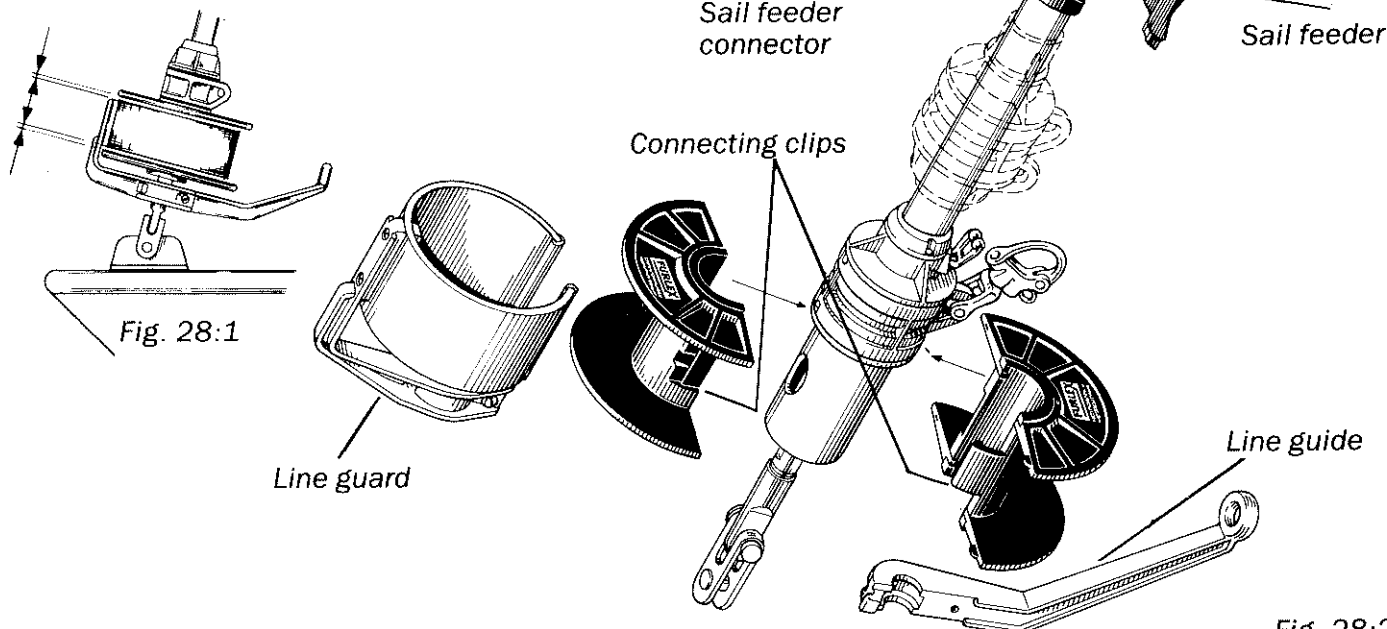

Fig. 28:2
- 4 Adjust the position of these so that the line guard does not touch the line drum and prevent it from rotating see fig. 28:1.